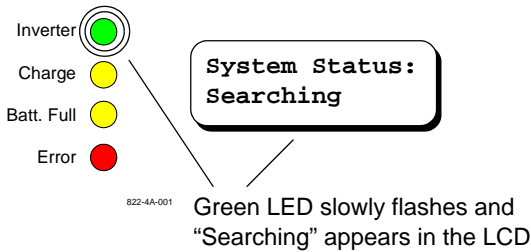

**Figure 4-6** Manual Stop Only Message
**Note:** If the generator is manually started from the RC/GS, the generator will not shut down automatically. “Man Stop Only” (Figure 4-6) is displayed. Shut down the generator manually. See “Generator Start/Stop (RC/GS Only)” on page 44.